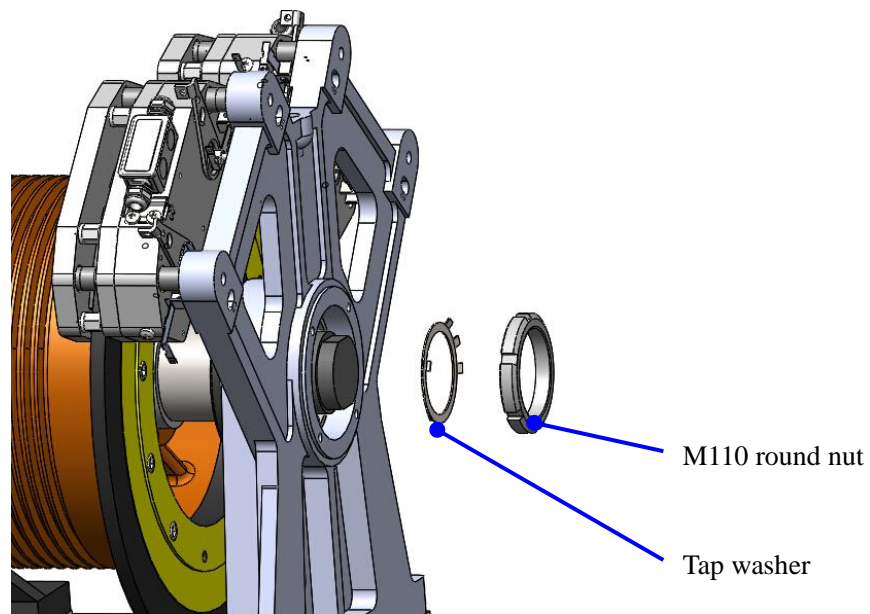

Figure 57: Remove M110 Round nut and Tap washer
6. Loosen the M110 round nut and tap washer using a screwdriver and hammer; then remove them from the main shaft. See Figure 57.